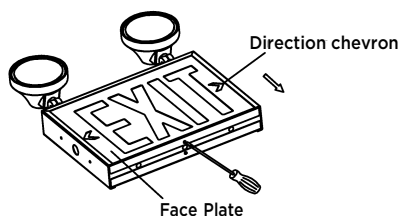
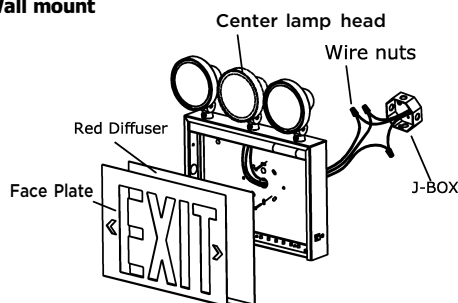
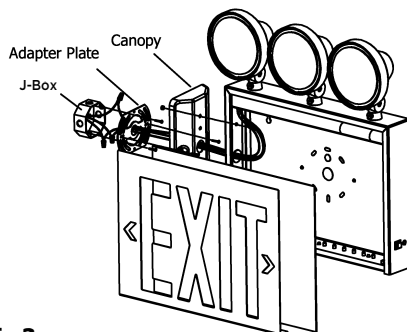
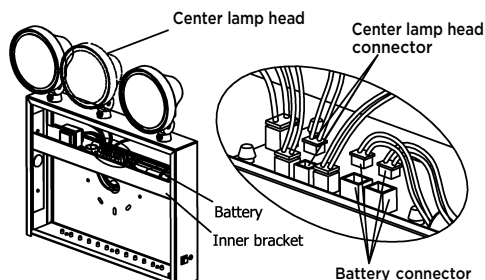

Fig 1
Fig 2
Fig 3
Fig 4
- Slide out face plate and red diffuser by removing the screw on the bottom of the unit (see Fig 1).
- Assemble center lamp head provided if fixture have this option, make proper center lamp head connection (see Fig 2, Fig 4).
- Feed AC supply leads through the center hole on the housing, Mount fixture to the J-Box using the (2) 1" long 8-32 screws (Fig 2).
- Connect Battery connector to PC board (see Fig 4).
- Remove the (3) KO's on the side of housing for side mounting.
- Using the (2) 1" long 8-32 screws and nuts, assemble canopy on the fixture.
- Determine if Adapter Plate will be needed for proper orientation of the exit sign. If it is needed, install using remaining (2) 1" long 8-32 screws.
- Mount fixture to the J-Box using the (2) 1" long 8-32 screws (see Fig 3).